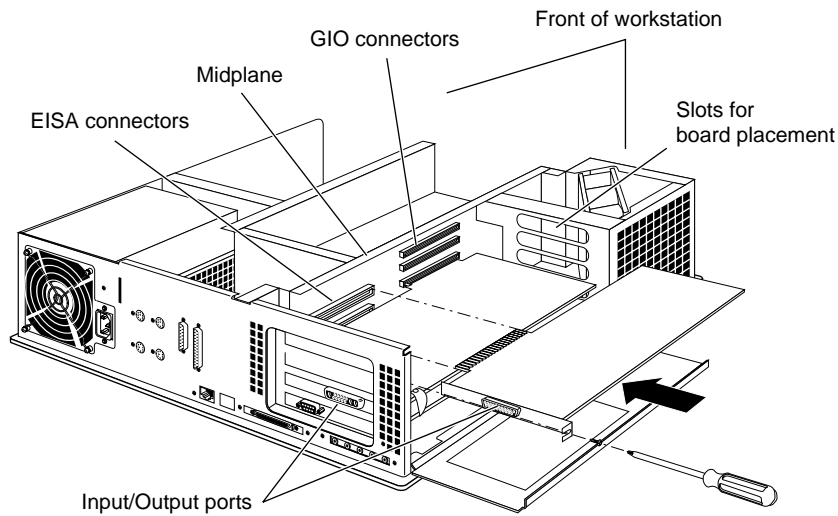

Figure 4-13 Installing the Option Board
- Align the Input/Output port with the port opening that allows access to the exterior of the chassis. Push the board into the slot until the connector on the back of the board is securely connected to the connector on the midplane, as shown in Figure 4-13.
The screw opening is located on the metal bracket on the upper left side of the board. See Figure 4-13.